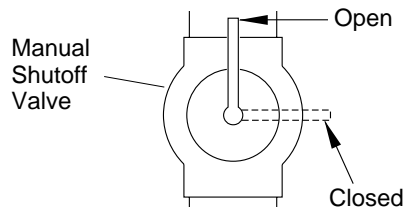

Figure 31 - Manual Shutoff Valve
1. Close manual shutoff valve (see Figure 31).
1. Open manual shutoff valve (see Figure 31).